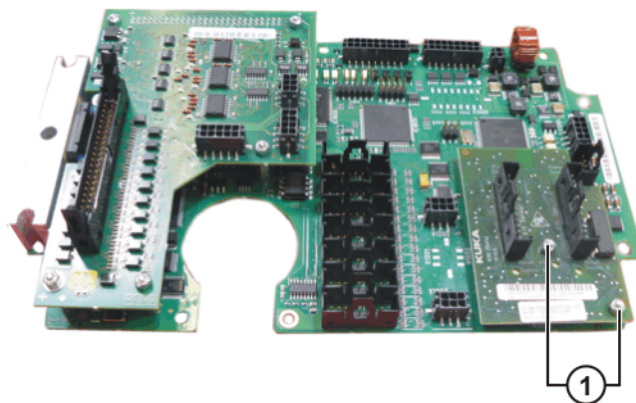

Fig. 11-15: Exchanging the force sensor card
2. Remove the hexagon screws of the force sensor card. (>>> Fig. 11-15 )